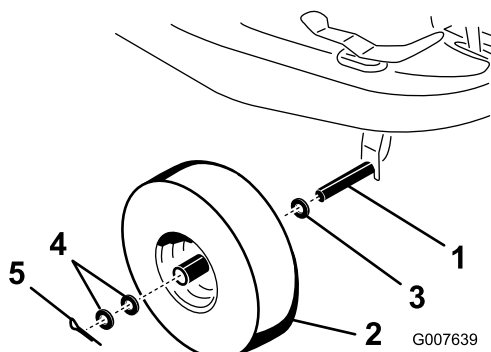

Figure 1
- Slide a flat washer (M16, 3mm thick) onto each spindle (Figure 1).
- Mount the wheels and secure each of them with 2 spacers (M16, 1 mm thick) and a cotter pin (Figure 1).